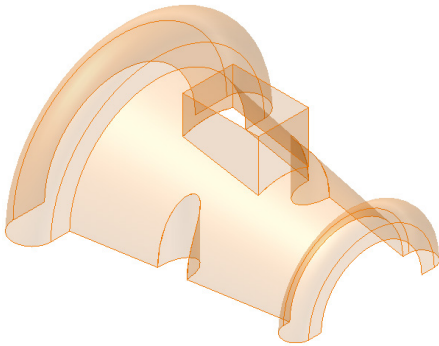

Figure 18-63 Model after creating the lofted surface
- h. Create a 3D sketch on the deleted face and then share the sketch that was used in splitting the base surface. Create a lofted surface using the shared sketch and the 3D sketch, as shown in Figure 18-63.
12. Turn off the visibility of the sketches. The model after creating the lofted surface is shown in Figure 18-63.